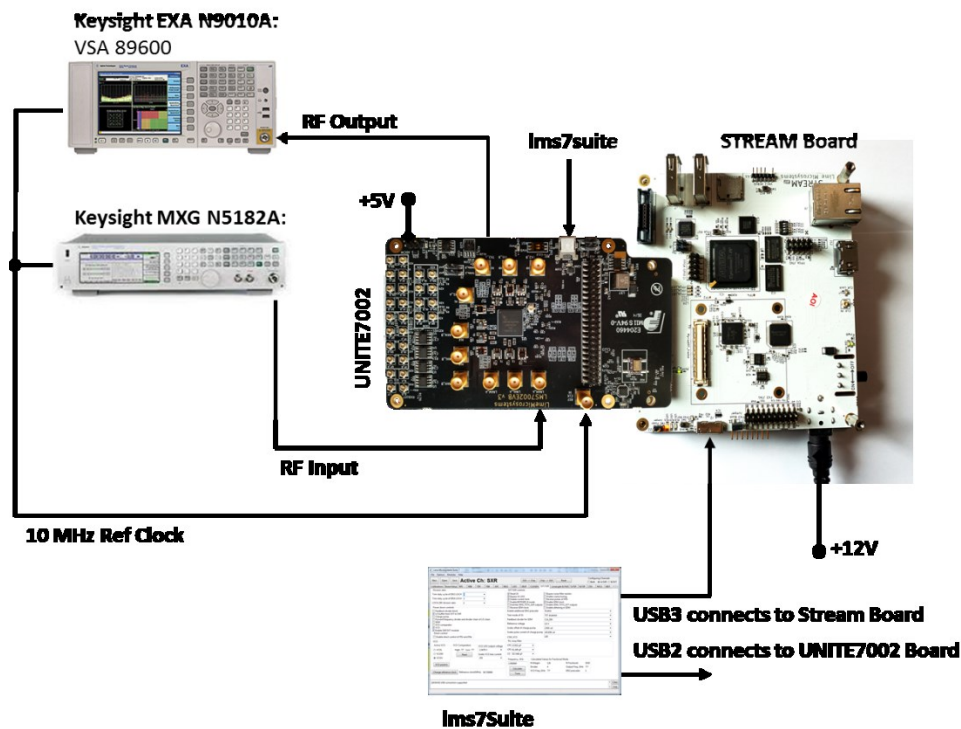

Figure 6 Demo Setup for LMS7002EVB and Stream board
The demo setup is showed in *Figure 6* . This demo uses single control software “*lms7suite.exe*” to control UNITE7002 board and Stream board.
1. Connect the DEMO setup as shown in Figure 6. To measure Tx EVM the VSA89601B software is required.